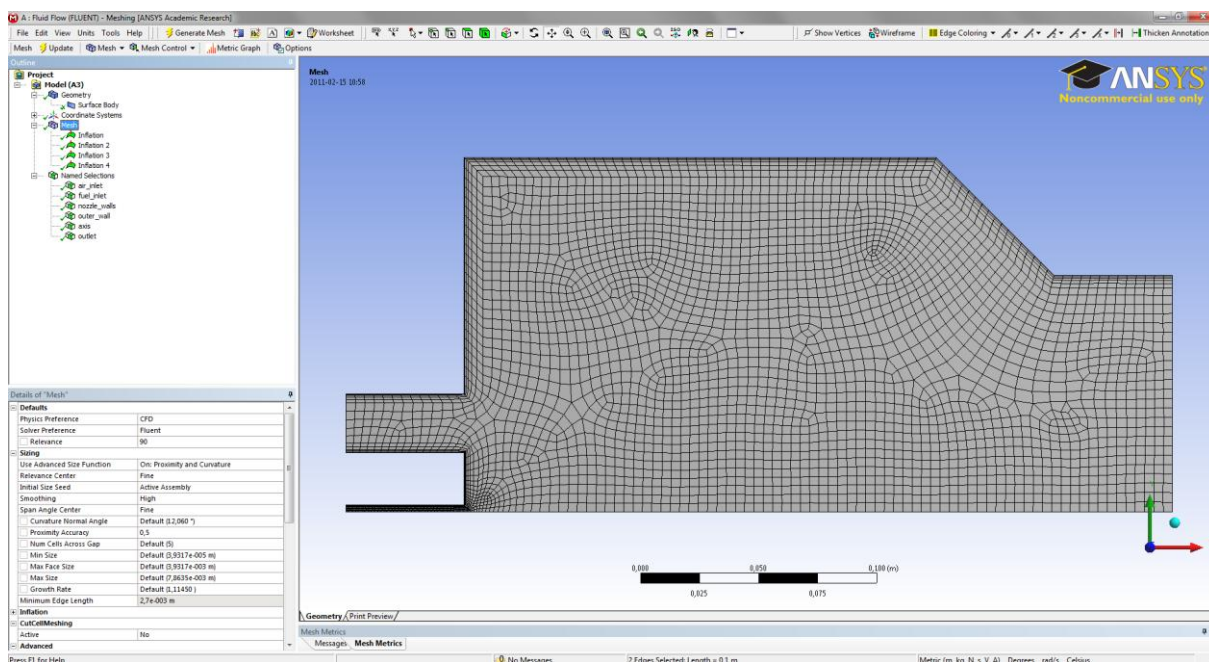

Figure 5. Computational mesh.
8. Evaluate the mesh quality in terms of near-wall-resolution, cell skewness etc. The mesh should be acceptable but it is not critical at this point since you later will do mesh adaption and evaluate if you have a mesh-independent solution. Your mesh should look similar to Figure 5.